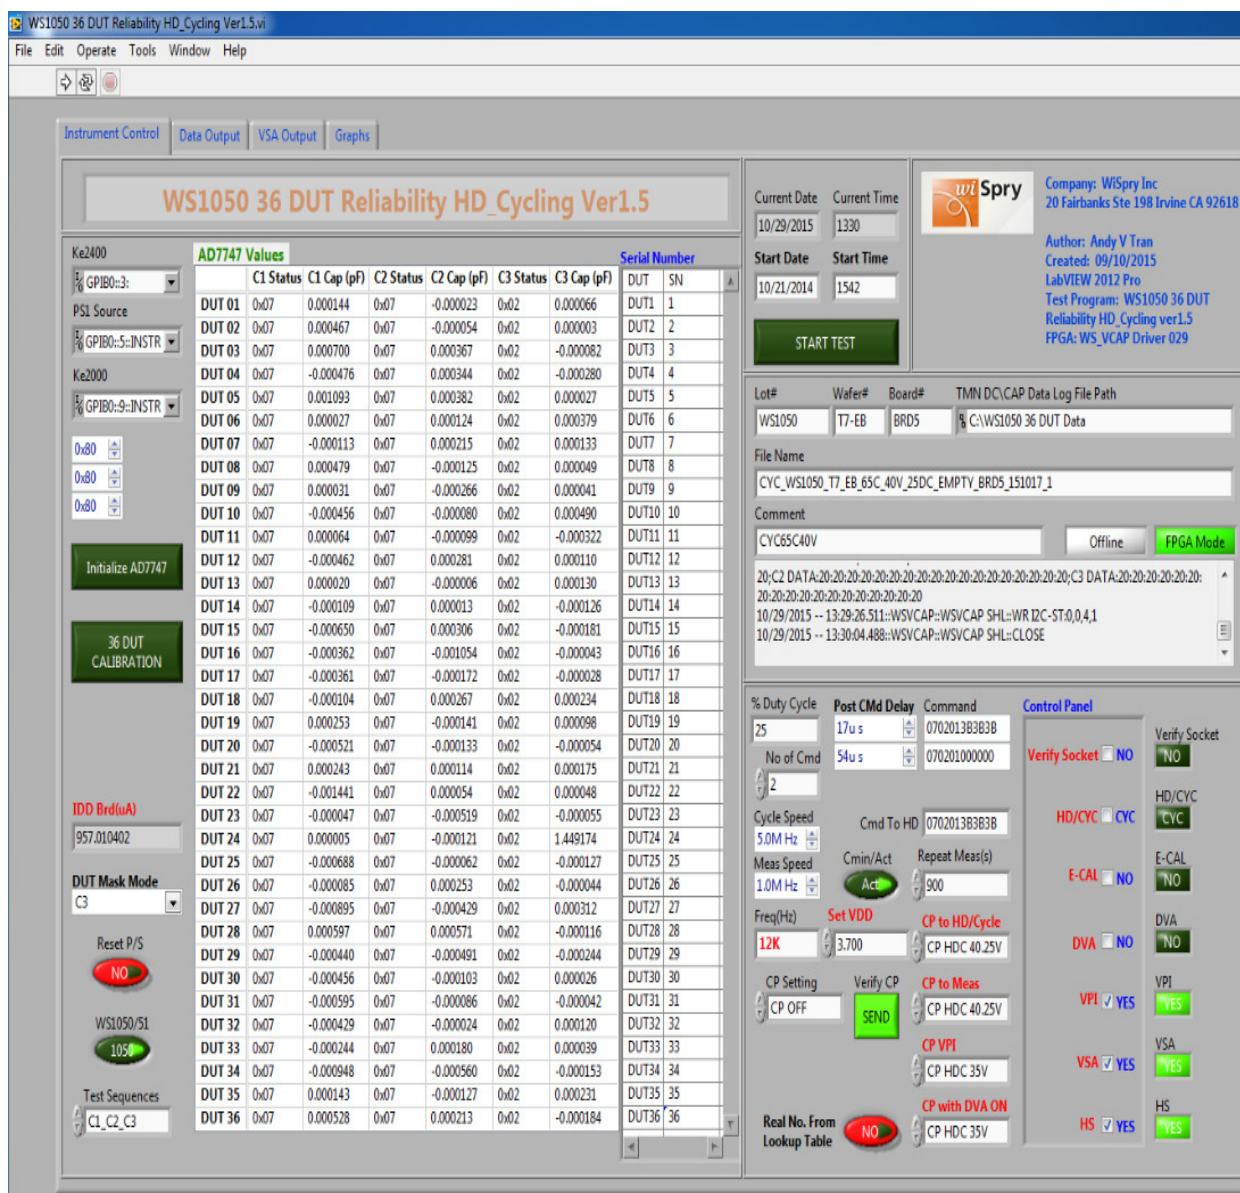
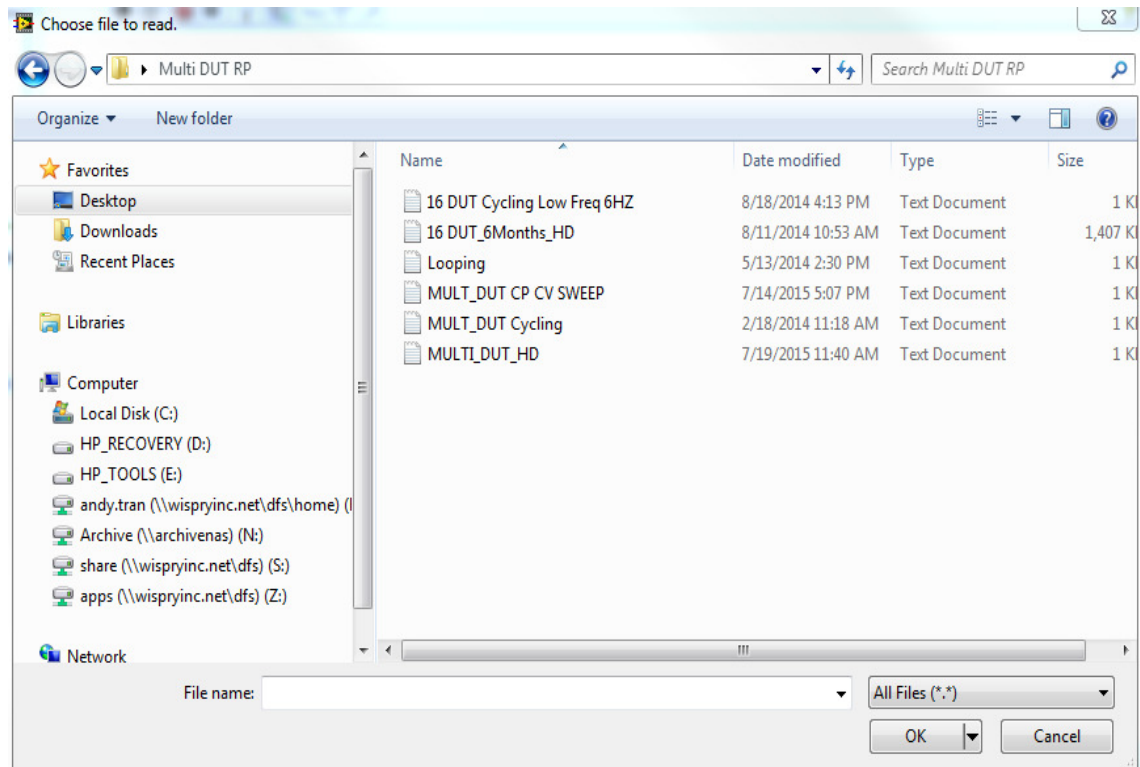

Figure 2 Front Panel of the WS1050 36 DUT Stress Test Program
Figure 3 Share Drive Folder for Multi-DUT Cycling or HD Read Point Definition
- 7.6.2 Figure 2 shows the front panel of the test program (for the WS1050 version 1.5)
- From labVIEW test program (Figure 2) click  this button at the top left corner to run the test program, it will pop-up a dialog box (Figure 3) below to ask the look up table for read point